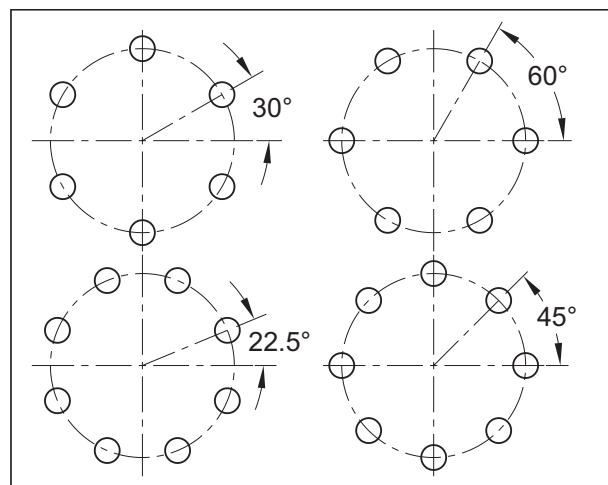

Figure 27-11
*Figure 27-11* shows relationship of the first hole position to the 0° location of a bolt circle. 0° location is equivalent to the 3 o'clock position or the East direction.